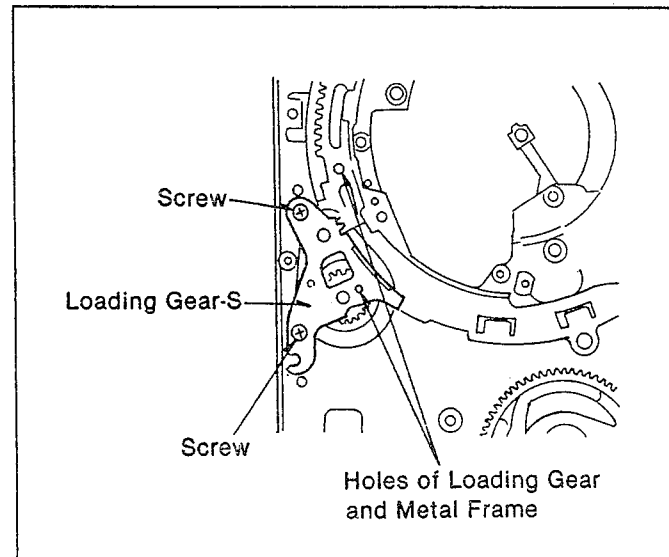

Fig. M6
- (2). Install the Loading Gear-S so that the hole of Loading Gear is exactly in with the hole of metal frame of Loading Gear-S Unit as shown in Fig.M6.